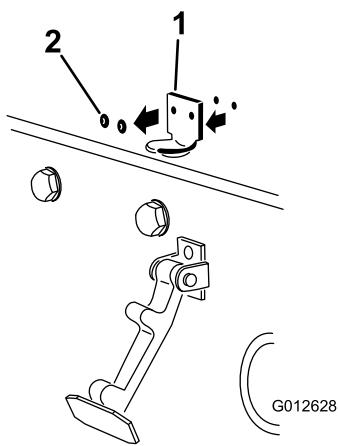

Figure 23
2. Remove the 2 rivets securing the hood-latch bracket to the hood (Figure 23).
Note: The lock bracket must be against the hood (Figure 23).